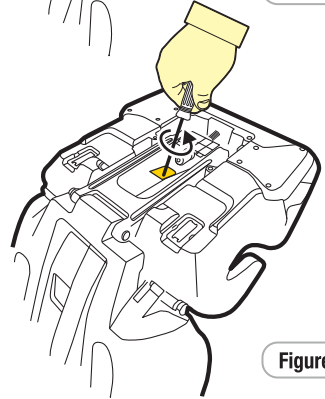

Figure 2
- Step 2:** Remove small screw securing the 3-bar plate (refer Figure 2).